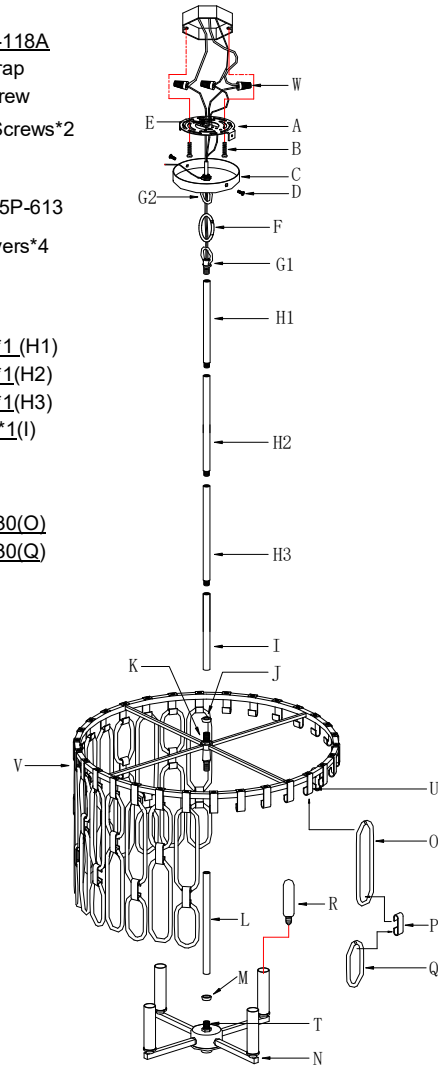

Fig. 3
CONNECTING THE WIRES (Fig. 3)
8. Connect the electrical wires as shown in (Fig.3), making sure that all wire connectors are secured. If your junction box has a ground wire (green or bare copper), connect the fixture's ground wire to it. Otherwise, connect the fixture's ground wire directly to circular strap (A) using the ground screw provided.
6. Connect the electrical wires as shown in (fig. 3), making sure that all wire connectors are secured. If your junction box has a ground wire (green or bare copper), connect the fixture's ground wire to it. Otherwise, connect the fixture's ground wire directly to the circular strap (A) using the ground screw provided.